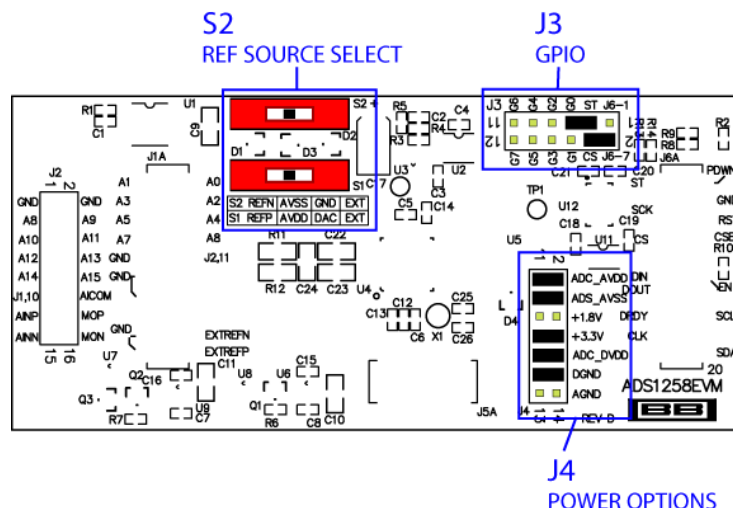

Figure 3. ADS1258EVM Default Jumper Locations
Figure 3 shows the jumpers found on the EVM and the factory default conditions for each one.
Step 3. Set the jumpers and switches on the ADS1258EVM as illustrated in Figure 3 (note that these settings are the factory-configured settings for the EVM):
- Set jumper block J4 as illustrated in Figure 3.
- Set up jumper block J3 as illustrated in Figure 3.